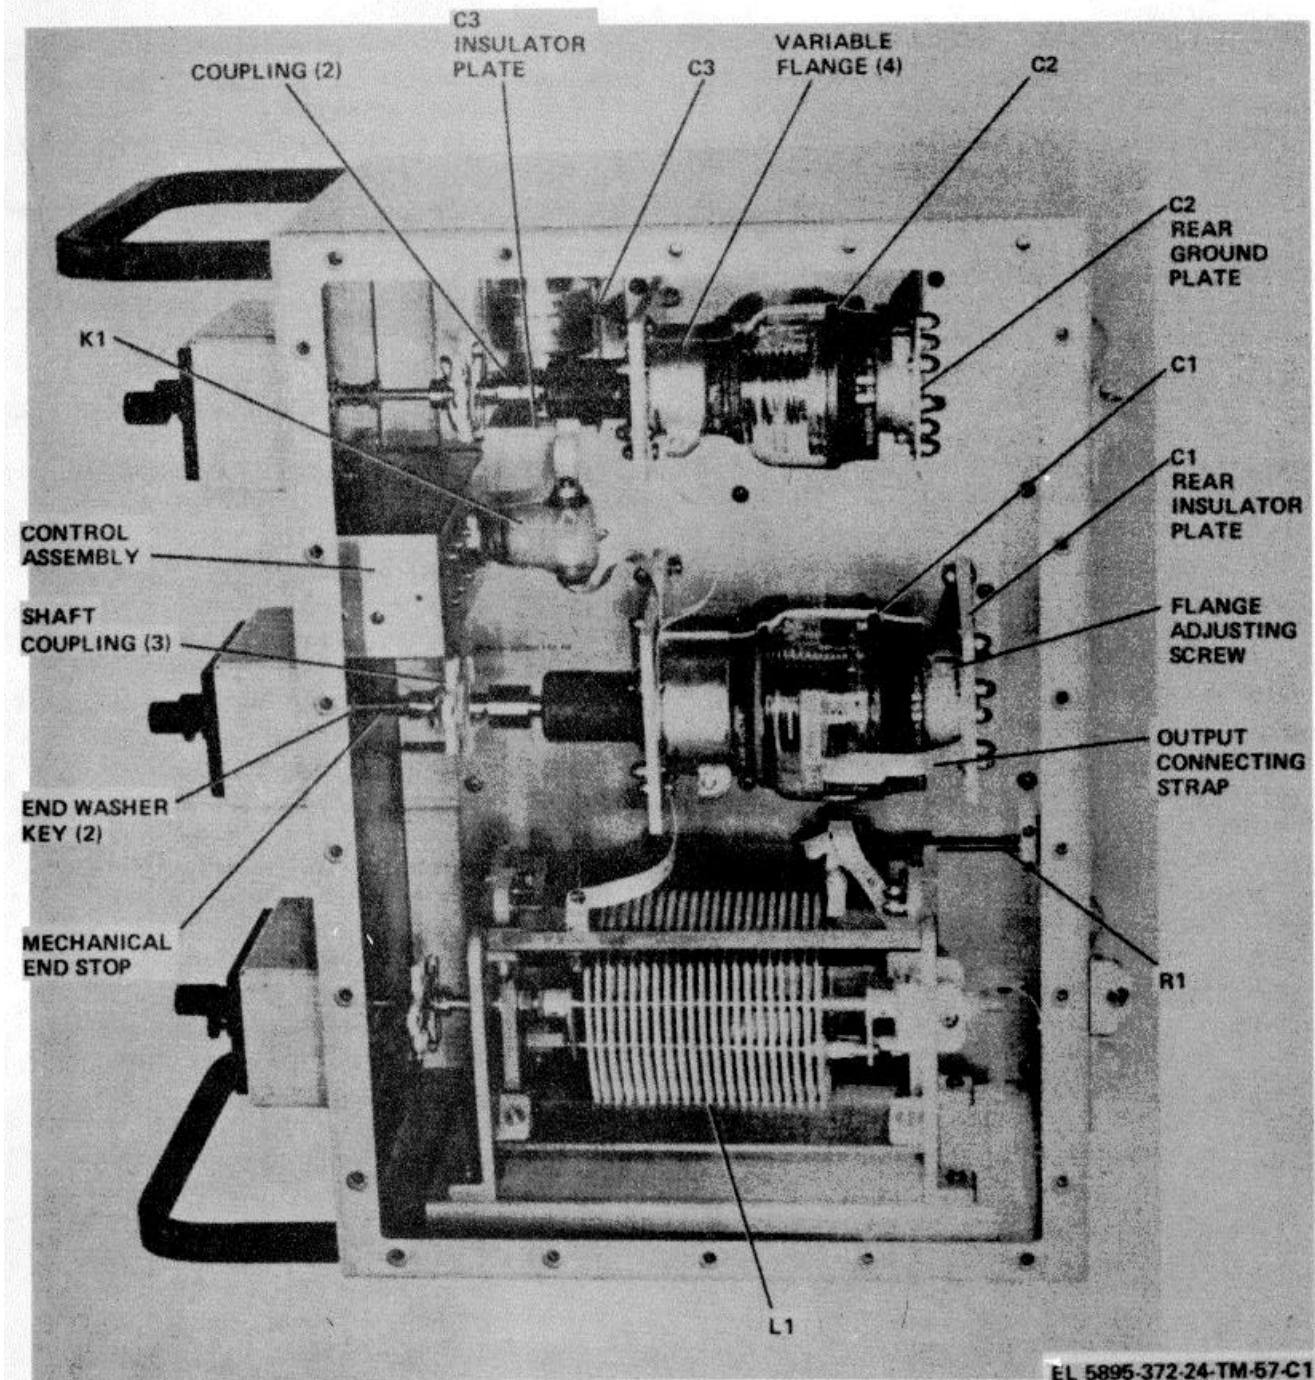

Figure C-4. Impedance matching device, parts location.
a. *Replacement of C1 (fig. C-4).*
- (1) Loosen two 6/32 x 0.75-inch setscrews in coupling between C1 and shaft coupling.
- (2) Disconnect insulator plate from main chassis by removing two 10/32 x 0.50-inch screws.
- (3) Loosen variable flange at rear end of C1 by loosening flange adjusting screw.
- (4) Remove rear insulator plate assembly.
- (5) Hold capacitor C1 securely and loosen
b. *Replacement of C2 (fig. C-4).*
(1) Remove C2 in accordance with steps (1) through (6) of paragraph C-9a.
(2) Connect capacitance meter across replacement capacitor and adjust for 54 pF.
(3) Replace C2 in accordance with steps (8) through (12) of paragraph C-9a.
c. *Replacement of C3 (fig. C-4).*
(1) Remove 8/32 x 0.25-inch screw attaching connecting strap from C3 at K1.
(2) Remove two 10/32 x 0.50-inch screws attaching C3 insulator plate to chassis.
(3) Loosen variable flange on C3 insulator plate by loosening flange adjusting screw.
(4) Hold capacitor C3 securely and remove insulator plate.
(5) Loosen variable flange on C3 ground plate and carefully remove C3 from unit.
(6) Carefully insert replacement capacitor into variable flange on ground plate.
(7) Tighten ground plate variable flange adjusting screw.
(8) Install insulator plate to C3 and main chassis and tighten two 10/32 x 0.50 screws.
(9) Tighten insulator plate variable flange adjusting screw.
(10) Reconnect strap to K1 by tightening 8/32 x 0.25 -inch screw.
d. *Replacement of L1 (fig. C-4).*
(1) Place impedance matching device on left side.
(2) Remove 10/32 x 0.50-inch screws from three connecting straps.
(3) Loosen two 6/32 x 0.25-inch setscrews in coupling between L1 and shaft coupling.
(4) Remove four 10/32 x 0.75-inch screws attaching L1 mounting bracket to chassis.
(5) Carefully lift L1 from unit.
(6) Adjust replacement L1 wiper CCW to the end stop nearest the control end.
(7) Install L1 in unit and fasten to chassis using four 10/32 x 0.75-inch screws.
(8) Set INDUCTOR dial to 000.